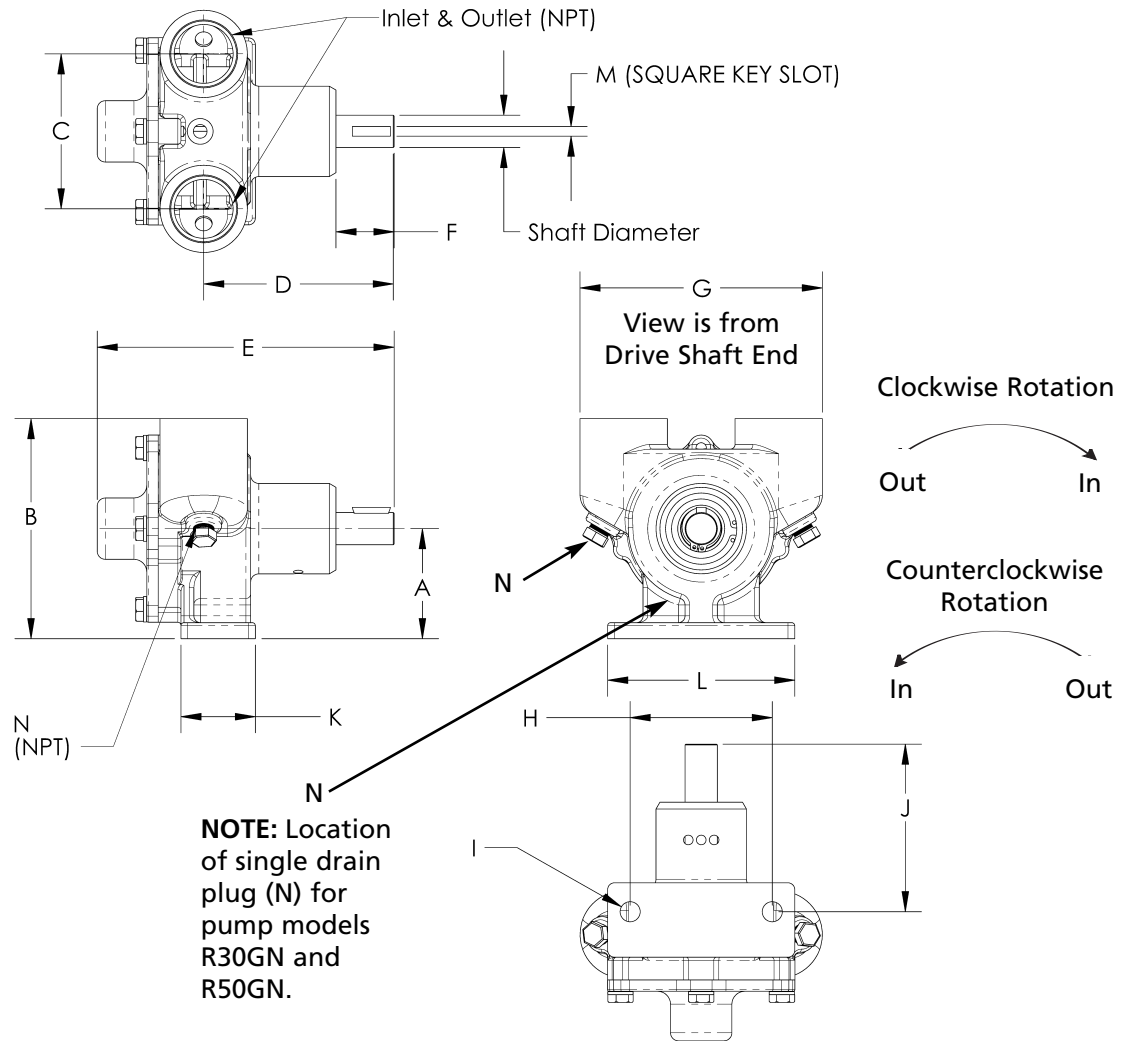

Figure 1
3. Attach suction line to suction inlet (See Figure 1 for proper rotation).
- Recheck motor and pump rotation. Pump rotation is by-directional (See Figure 1).